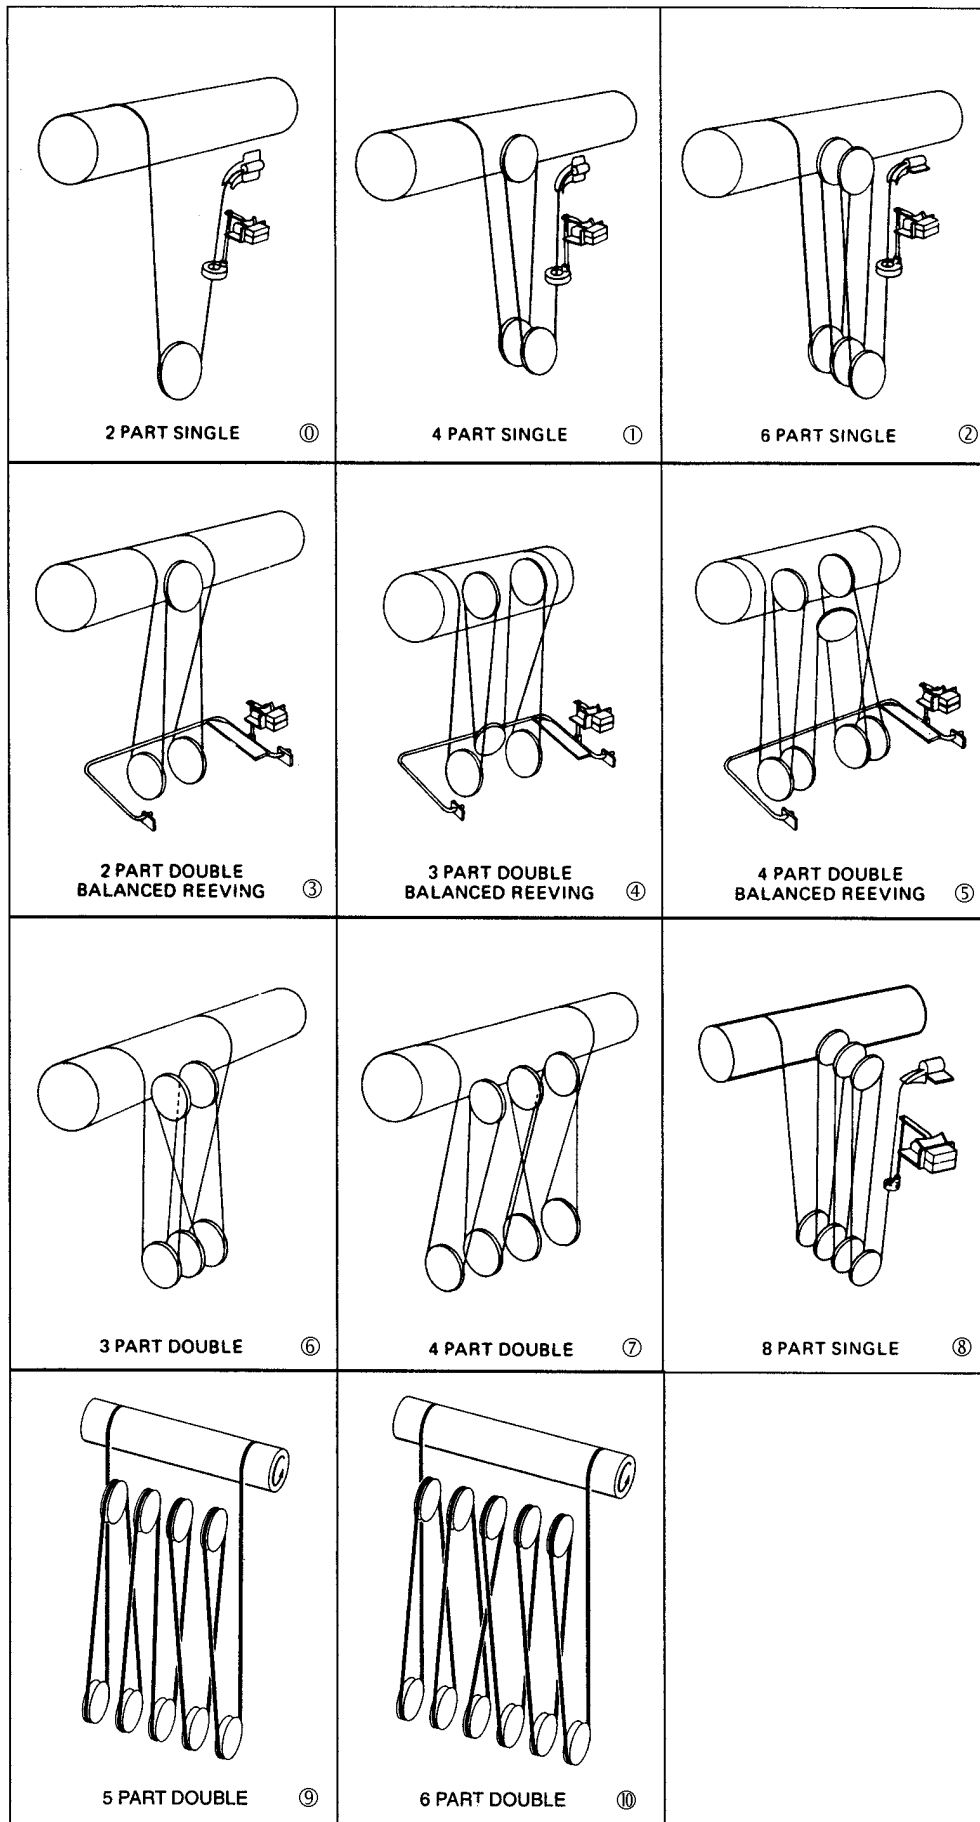

Figure 5-8. Reeving Diagrams
Before removing the old rope, refer to reeving diagrams, Figure 5-8. Face the rope drum on your hoist from the side which the rope comes off drum. To assist with rereveing your hoist, select the reeving diagram for your hoist. Note the description (such as 3 part double reeved, Figure 5-8, ④) and refer to paragraph below with the same description which describes rereveing procedure.
- (1) Lower the bottom block to a scaffold located 6 to 7 feet below hoist to relieve tension on wire rope. (Bottom block may be lowered to floor if desired; however, to handle less weight and for ease of rereveing adequate scaffold below the hoist is recommended.)
- (2) Remove bottom block sheave guard.
- (3) Remove key plates from both sides of sheave pin and slide sheave pin from bottom block.
- (4) Lift out sheaves from the top of the bottom block and remove wire rope.
- (5) Remove key plates or snap rings from upper block sheave(s) and slide out upper block sheave pins, releasing upper block sheaves. Remove wire rope from sheaves.
- (6) Make certain all personnel are clear of hoist and operate hoist "DOWN" to completely unwind all wire rope from drum. Stop hoist so drum anchor slot(s) is accessible. Remove live rope end socket(s) from drum.
- (7) TURN OFF POWER TO HOIST.
- (8) Open electrical compartment cover on single reeved hoists to remove dead end socket.
- (1) Pull far end of rope toward end of rope nearest hoist, until both ends are even and a loop is formed. Place fittings on both ends of rope in anchor slots on rope drum. Be sure end fittings are properly seated.
- (2) With all personnel clear of hoist - TURN ON POWER.
- (3) Operate hoist "UP;" guiding rope into grooves at both ends of drum, until the distance from the drum to the loop is:
- (4) Proceed with reeving as described in appropriate paragraph below and the reeving diagram for your hoist.
See Figure 5-8, ① for diagram.
- (1) Thread the remaining cable end through limit switch weight, then pass it over partial sheave, inside hoist, and insert in anchor fitting at hoist frame. Be certain power is off before opening electrical compartment cover for access to anchor fitting. Properly seat rope end fitting in socket and replace cotter pin in end of socket.
- (2) Grasp loop, formed after installing end anchor, and place bottom block sheave in loop. Lower sheave into bottom block and insert sheave pin. Replace key plates and bolts holding sheave pin in place.
- (3) Replace sheave guard. Make certain rope is not twisted. Should the two parts of rope tend to wind around each other, remove cable from anchor slot and untwist cable. Reattach the cable anchor.
- (4) Lubricate cable per Paragraph 4-3.
See Figure 5-8, ② for diagram.
- (1) Grasp cable at a point one-third (approx. 14'0") the distance hanging below the rope drum and form a loop. Place one upper sheave in this loop. Slide upper sheave with cable into sheave pocket; partially insert sheave pin to hold sheave in place.
- (2) Repeat (1) above and install second upper sheave with rope. Insert sheave pin and install key plates and bolts to secure sheave pin.
- (3) Thread rope end socket through limit switch weight; then, pass it over partial sheave, inside hoist, and insert in anchor fitting at hoist frame. Be certain power is off before opening electrical compartment cover for access to anchor fitting. With end fitting properly seated in anchor, replace cotter pin in end of socket. Three loops have now been formed for bottom block sheaves.
- (4) Place sheave in each loop. Install one sheave with cable in bottom block; partially insert sheave pin to hold sheave in place. Note: Be certain to install spacer washers between sheaves, when shown on parts illustration.
- (5) Repeat step 4 for remaining bottom block sheaves. Install sheave pin through sheaves. Replace key plates and bolts securing sheave pin.
- (6) Replace sheave guard.
- (7) Lubricate cable per Paragraph 4-3.
See Figure 5-8, ③ for diagram.
- (1) Form loops in the two ropes coming from rope drum. Place these loops into bottom block pockets and slide pipe or rod through sheave pin holes. Note position of ropes passing limit stop bar.
- (2) Partially insert upper block sheave pin in opening and install one spacer washer. Raise remaining rope up to hoist, form a loop and place upper sheave in this loop.
- (3) Place sheave with rope into upper sheave pocket and slide pin partially thru sheave. Install remaining washer and push pin thru side plates. Install snap ring on each end of pin to secure pin in place.